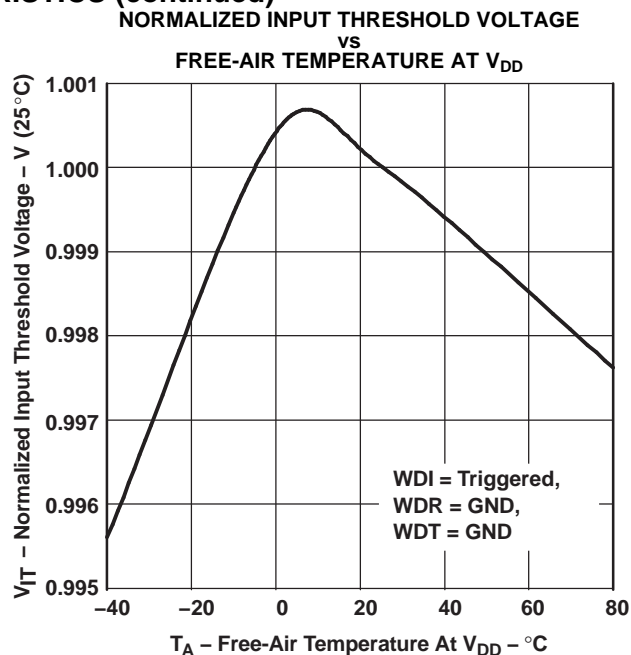

Figure 5.
- Changed voltage from 0.6 V to 1.1 V for bottom figure 5